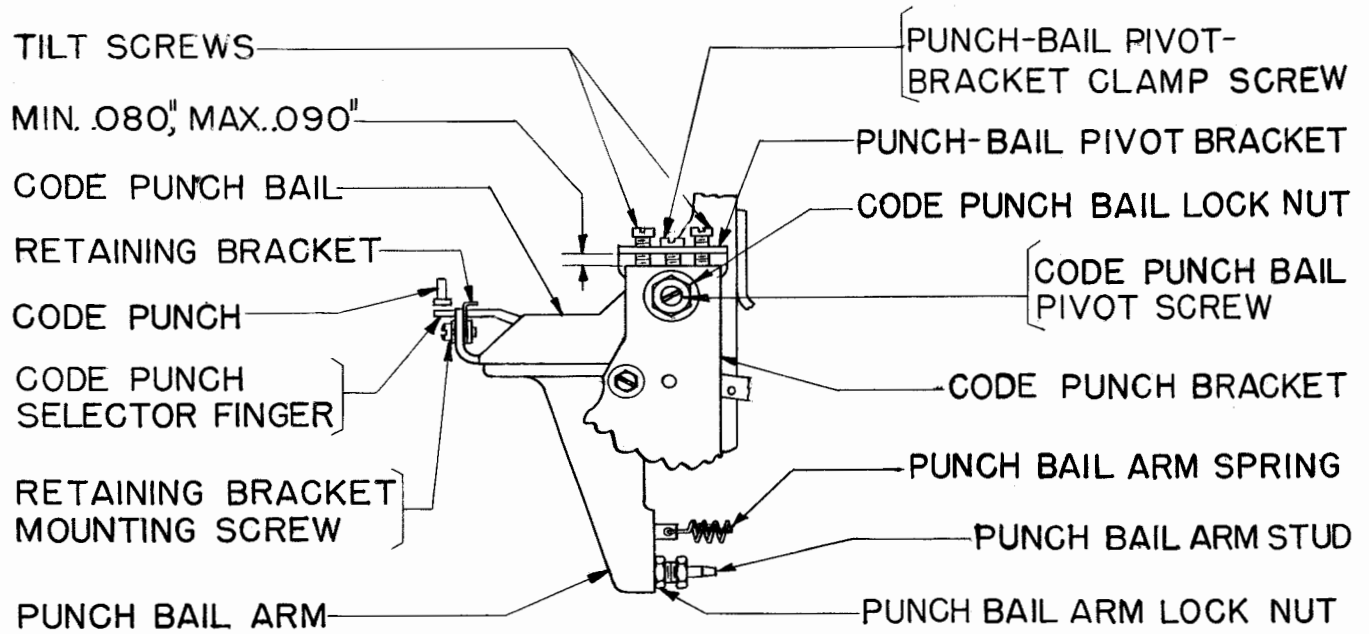

Figure 38
2.56 Code-punch-bail Pivot-bracket (Preliminary Adjustment): The lower surface of the punch-bail pivot-bracket shall be minimum 0.080 inch, maximum 0.090 inch above and parallel to the surface of the code-punch bracket on which it mounts, as shown in Figure 38.
2.58 Selector-fingers Retaining-bracket: The code-punch selector-fingers shall have minimum 0.006 inch, maximum 0.015 inch up and down play in their slots in the retaining bracket. See Figure 38.